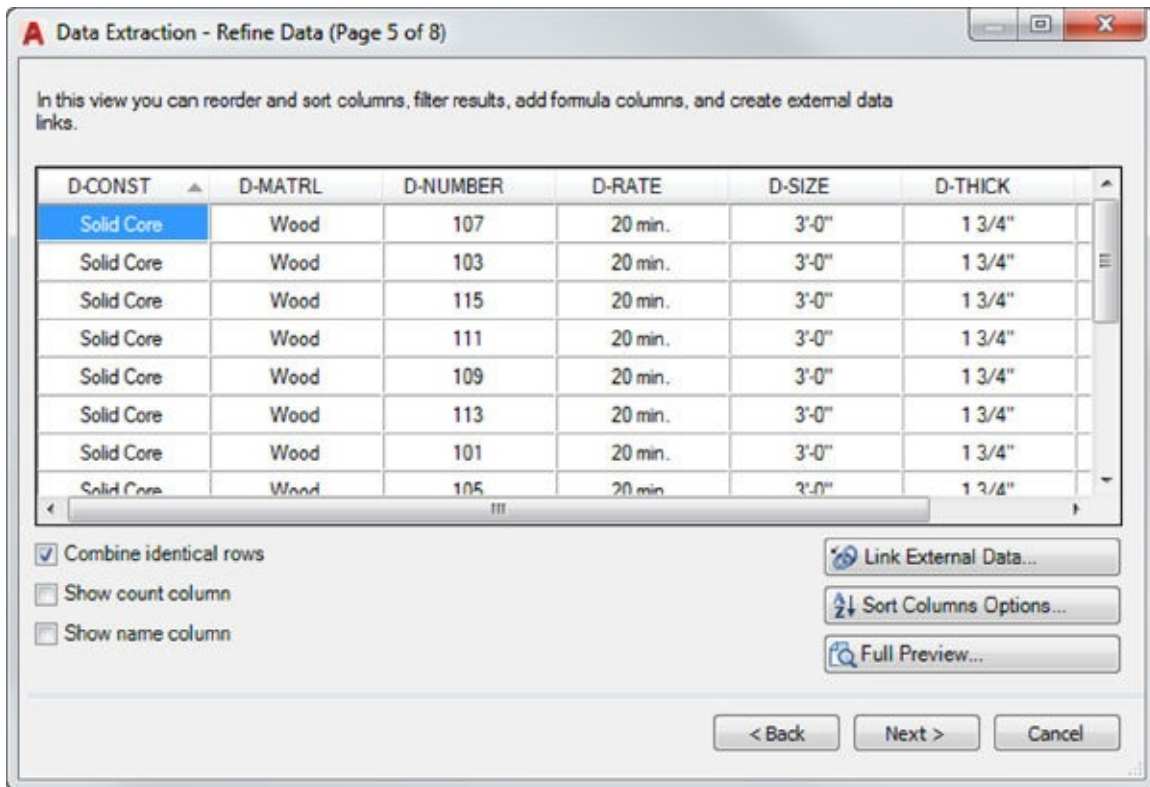

FIGURE 12.19 The Refine Data page
7. Click Next. The Refine Data page appears (see Figure 12.19). Here you can continue to filter out data. For example, you can deselect the Show Count Column and Show Name Column options because they may be unnecessary for your purpose. You can also get a preview of your extracted data by clicking the Full Preview button.
The table may appear at a small size depending on the scale of your drawing. Zoom in to the location where you clicked, and you'll see the table (see Figure 12.24). If you link your exported spreadsheet using the Link External Data option in the Refine Data page (Figure 12.19), you will see the Data Link icon in the lower-right corner of the AutoCAD window.